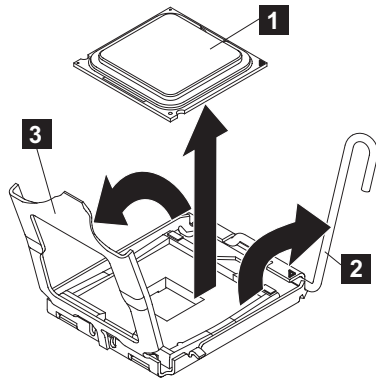

Figure 251. Opening the SAN Volume Controller 2145-CF8 microprocessor-bracket frame
1. To open the socket in preparation for inserting the microprocessor, press down and out on the release lever ( **2** in Figure 251 on page 229 as you did to remove the microprocessor, and lift up the microprocessor-release lever until it stops in the fully open position.